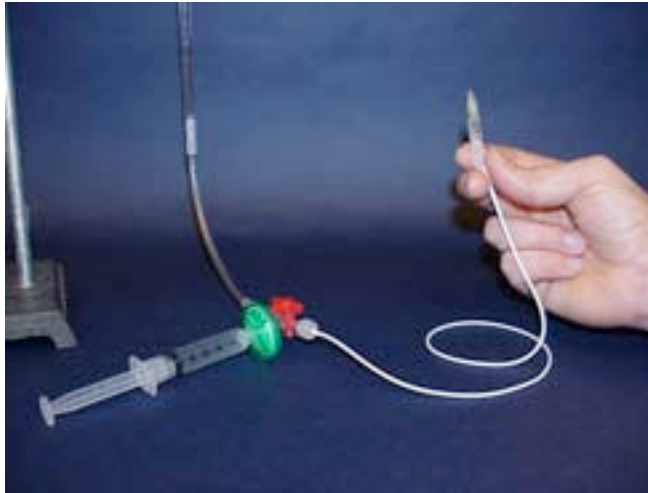

Figure 3
6. Position the CHPV/PV/ASD assembly vertically upward so as to allow flow through the assembly in an upward direction (figure 3). This orientation will aid in flushing air bubbles from the system quicker.